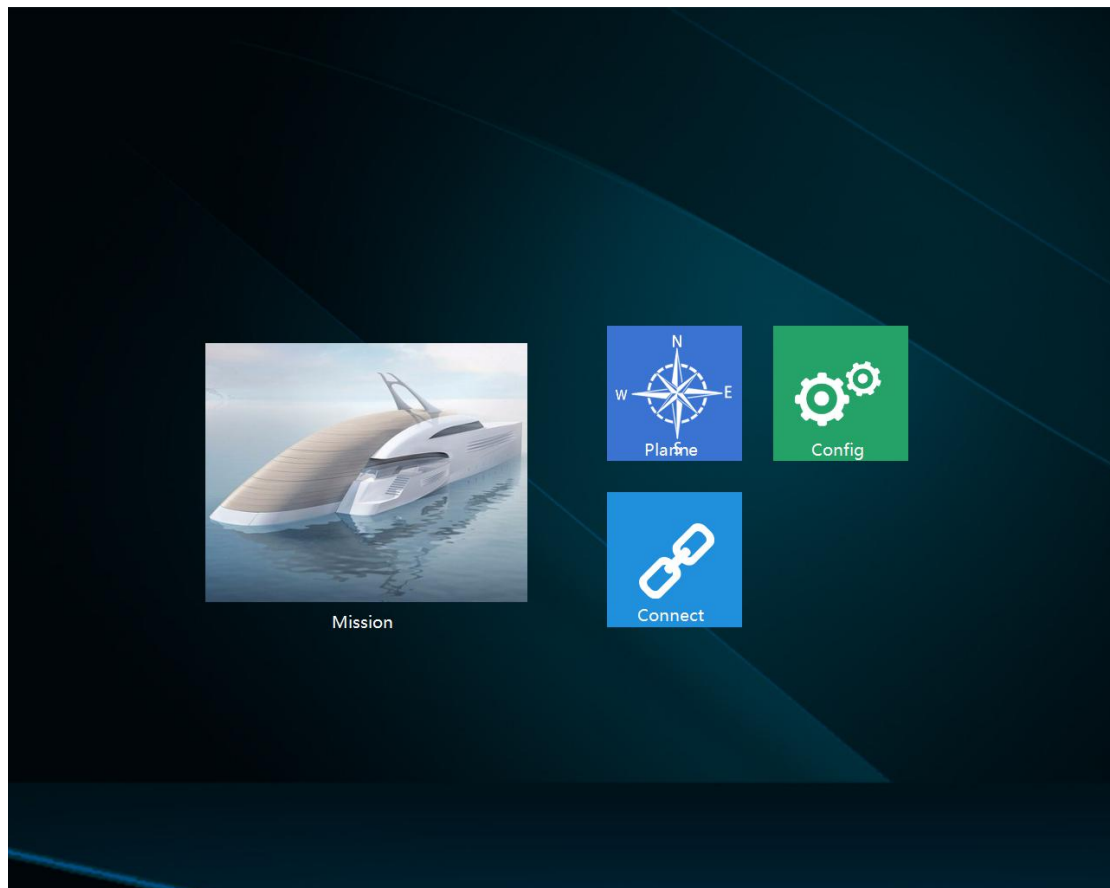

Figure 3.11
2) Select "Full Mode" (touch screen mode), enter the win10 style of the main interface, as shown in Figure 3.11: